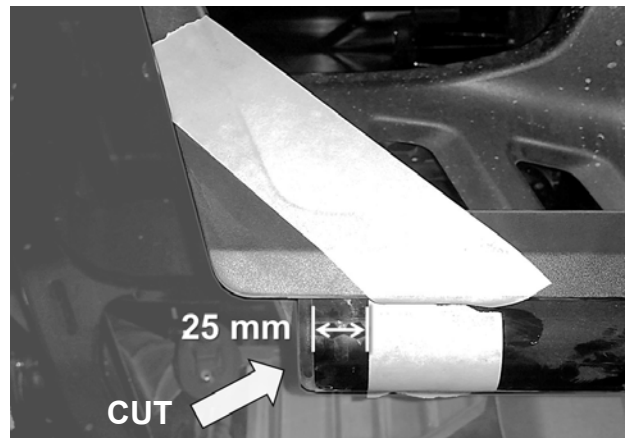

Fig. 30
4. ***** 5-seat models only *****The footrest support frame tubing must be cut back. The tube must be shortened 25 mm [1 inch] in length. The plastic cap at the end of the tube must be reinstalled in its new location. See Fig. 30